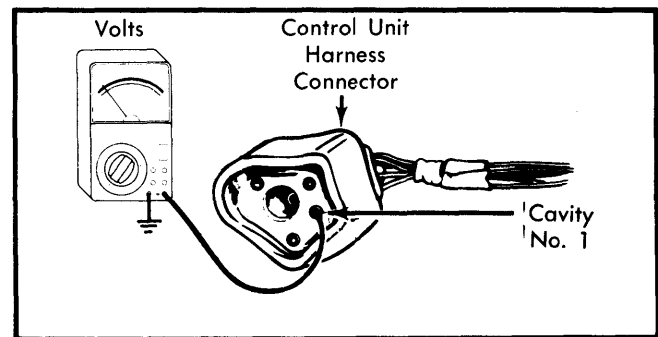

Fig. 8 Checking Voltage at Cavity No. 1
1) Connect voltmeter positive lead to control unit harness connector cavity 1. Reading should be battery voltage. If not, check and repair wires and components from harness connector cavity 1 back to battery. See Figs. 8 and 9.